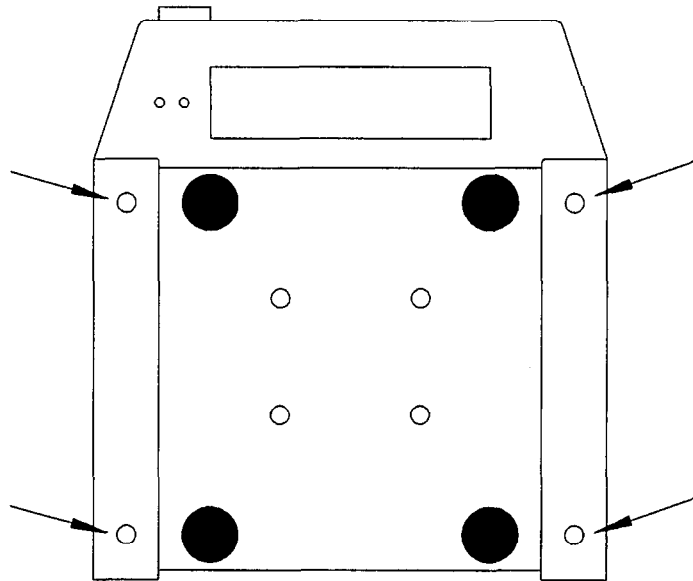

Figure 2a-13. Cover Securing Screws (viewed from underneath)
1. Cover Removal, see Figure 2a-13.